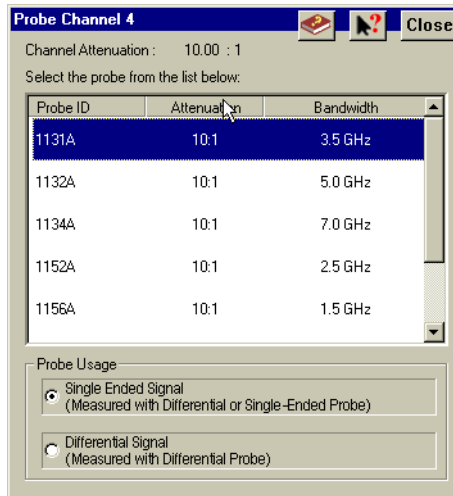

Figure 1 Probe Channel Dialog Box
- 4 If the Infiniium DCA is in operation, the Probe Channel dialog box will appear on the instrument display screen. Figure 1 on page 13.